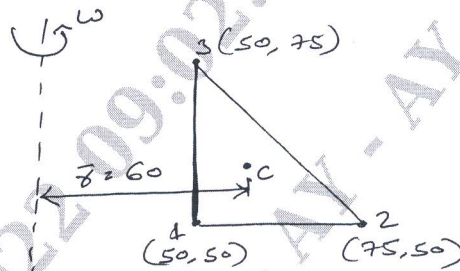

Fig.Q9(b)
b. For the element of an axisymmetric body rotating with a constant velocity  $\omega = 1000 \text{ rpm}$  as shown in Fig.Q9(b). Determine the body force vector. Include the Weight of the material where the specific density is  $7850 \text{ kg/m}^3$ .